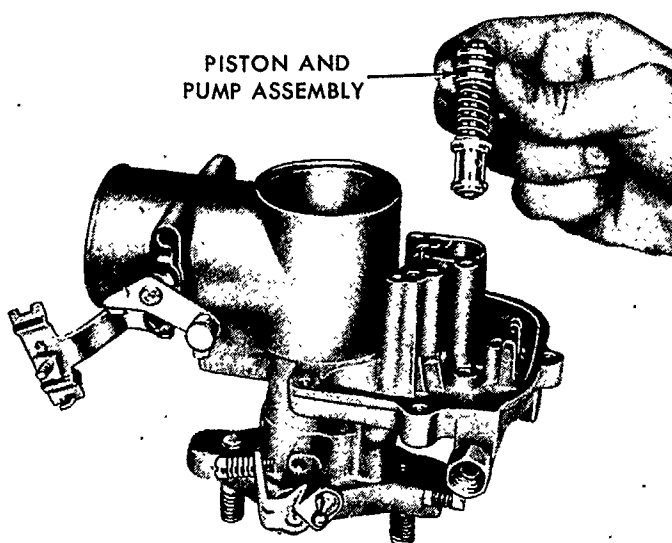

Figure 12
8. Remove the accelerator piston and pump assembly, Figure 12.